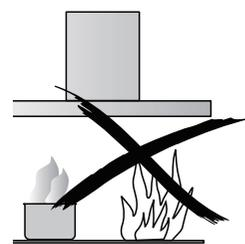

Fig. 2
- ⊙ Do not leave lit gas burners exposed due to the risk of fire. (Fig 2)